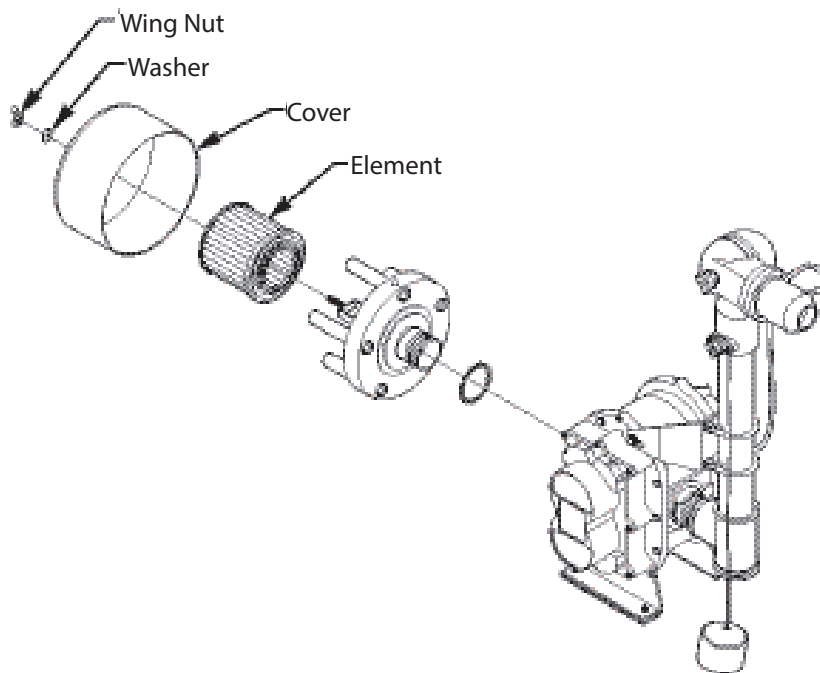

Figure 14 - Filter Element Replacement
- Remove and clean the element in the filter-silencer as follows. Reference Figure 14. .
8. Remove and clean the filter-silencer element and housing as explained in the MAINTENANCE section on page 23. Reference Figure 14.